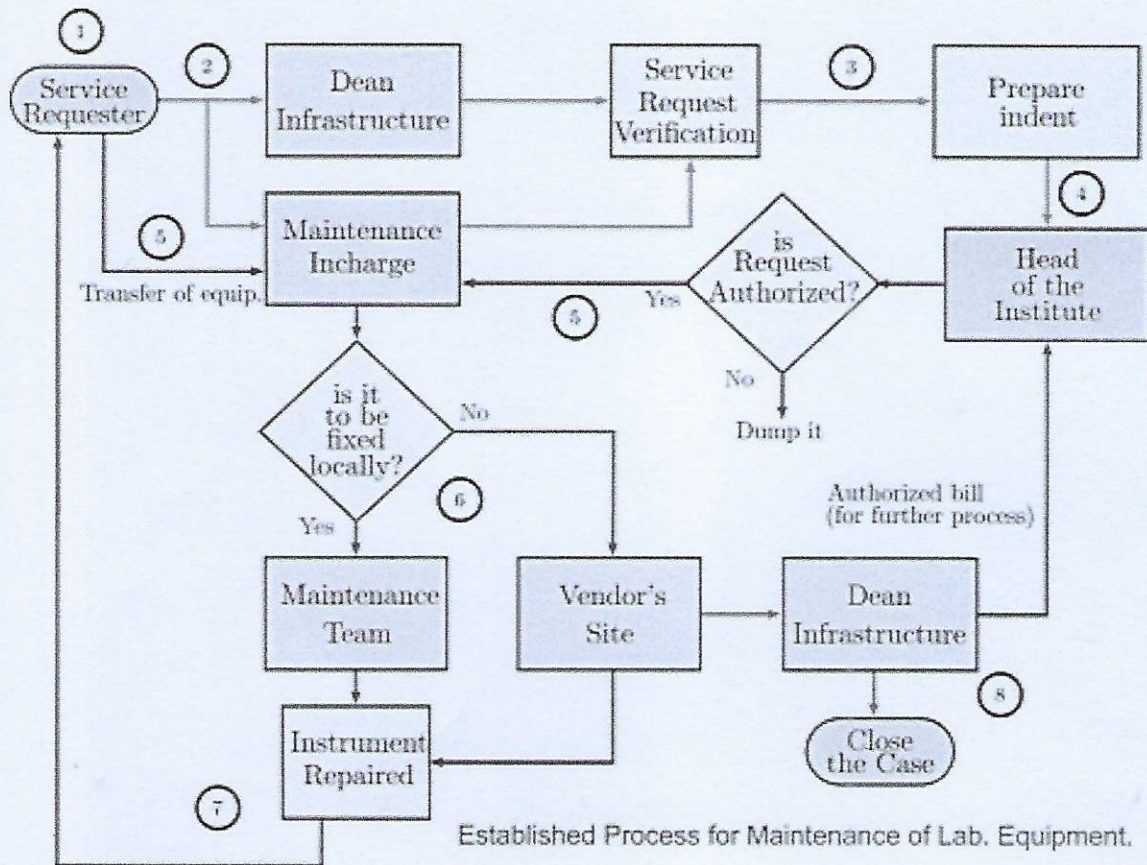

Figure 1 : Repair and Maintenance Process
- 1) If the problem could not be identified or fixed by the Laboratory Assistant, then a **service/repair request is registered** (marked as 1, as shown in the figure 1 below) with the Maintenance Department.
- 2) The service requisition form is prepared and sent to the Dean, Infrastructure (2) and the